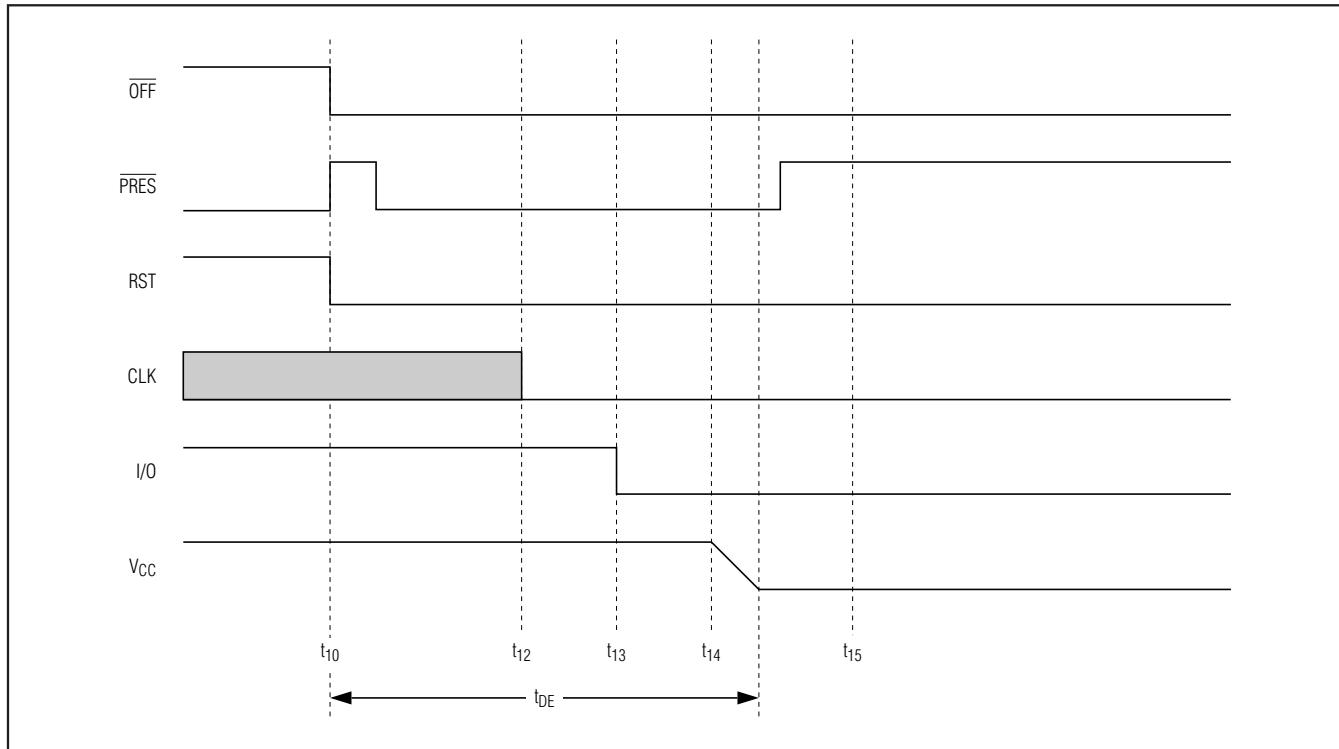

Figure 7. Emergency Deactivation Sequence (Card Extraction)
The DS8024 crystal oscillator runs when the device is powered up. If the crystal oscillator is used or the clock pulse on pin XTAL1 is permanent, the clock pulse is applied to the card at time t_4 (see Figures 7 and 8). If the signal applied to XTAL1 is controlled by the host microcontroller, the clock pulse is applied to the card when it is sent by the system microcontroller (after completion of the activation sequence).
- **Within a Card Session (CMDVCC Low).** Output OFF goes low when a fault condition is detected, and an emergency deactivation is performed automatically (Figure 7). When the system controller resets CMDVCC to high, it may sense the OFF level again after completing the deactivation sequence. This distinguishes between a card extraction and a hardware problem (OFF goes high again if a card is present). Depending on the connector's card-present switch (normally closed or normally open) and the mechanical characteristics of the switch, bouncing can occur on the PRES signals at card insertion or withdrawal.